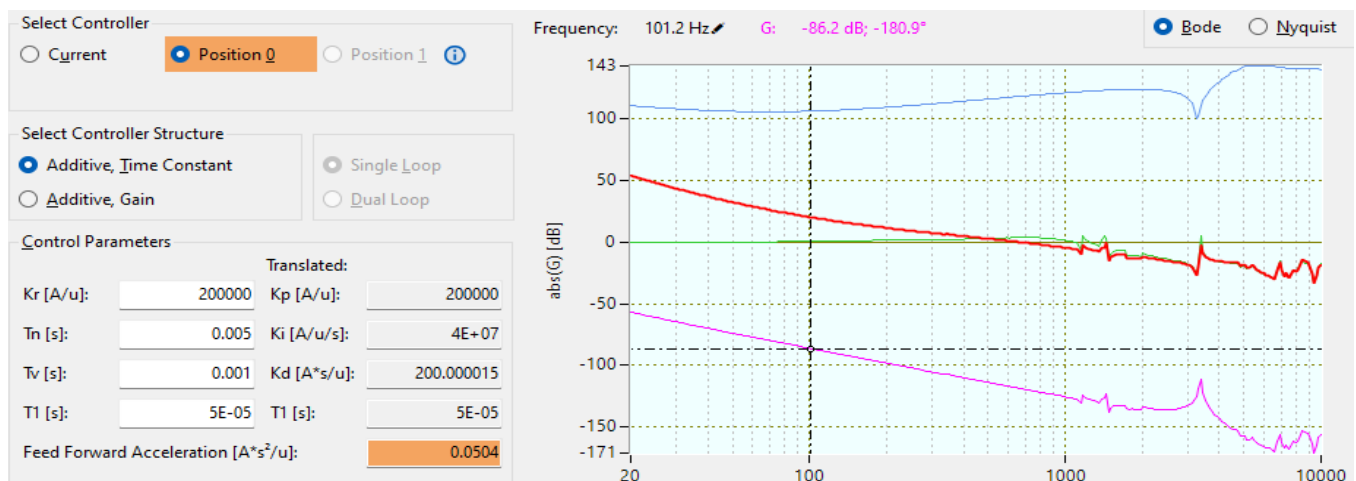

Figure 65: Calculation of the acceleration feed forward. With a measured amplitude of -65.3dB at 29.8Hz, the acceleration feed forward is set to 0.052.
3. At lower frequencies the amplitude in the Bode view of *Gplant* should show a linear section with a drop of 40dB per frequency decade and a phase angle of -180 degree. Place the cursor at a frequency  $f$  within the linear section (see also Figure 65).